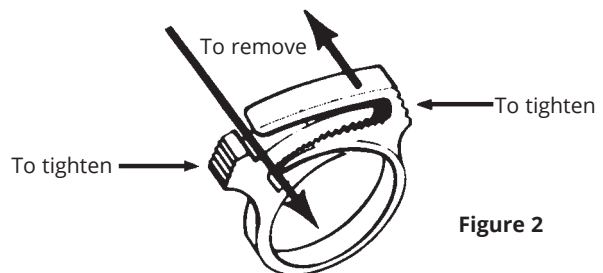

Figure 2
2. Secure the cooling vest hose using the clamp (Figure 2) around the entry sleeve of the vest.